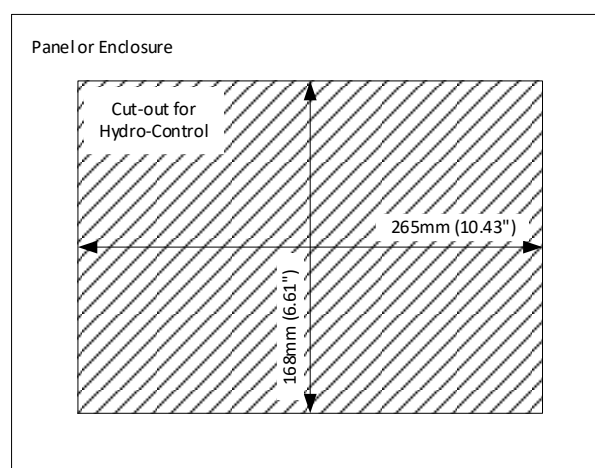

Figure 6: Panel cut-out for the Hydro-Control
- Cut out an aperture in the panel of the correct size. See Figure 6 for a template.